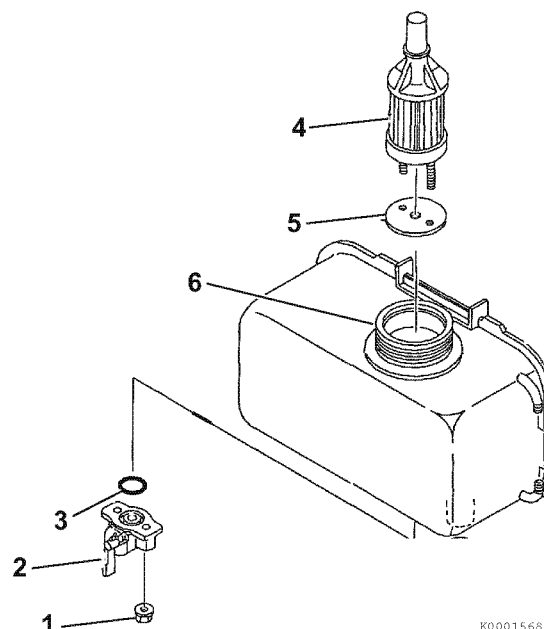

Figure 11
4. Loosen the fuel cock nuts (1, **Figure 11**) on either side of the fuel cock (2, **Figure 11**).
5. Remove and discard the O-ring (3, **Figure 11**).
6. Pull the outlet fuel filter (4, **Figure 11**) and gasket (5, **Figure 11**) out of the fuel tank filler port (6, **Figure 11**).
7. Install a new outlet fuel filter (4, **Figure 11**) and gasket (5, **Figure 11**) through the fuel tank filler port (6, **Figure 11**) and seat in the fuel tank.
8. Install a new O-ring (3, **Figure 11**) on the fuel cock (2, **Figure 11**) and fasten the assembly to the fuel tank using the fuel cock nuts (1, **Figure 11**).